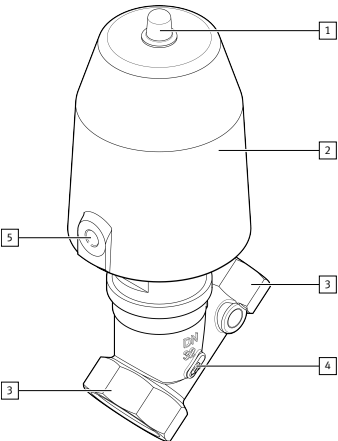

Fig. 1: Product design
- Observe the flow direction. The permitted direction of flow is marked by an arrow on the valve housing ➔ Fig. 1, [4].